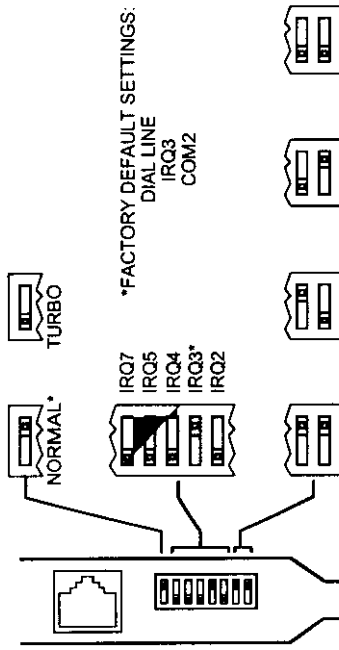

Figure 5. Setting the DIP Switches on the Modem Card
problem, you just have to select different DIP switch setting on the modem (see Figure 5).
6. If you need to change the switch position, see Figure 5.